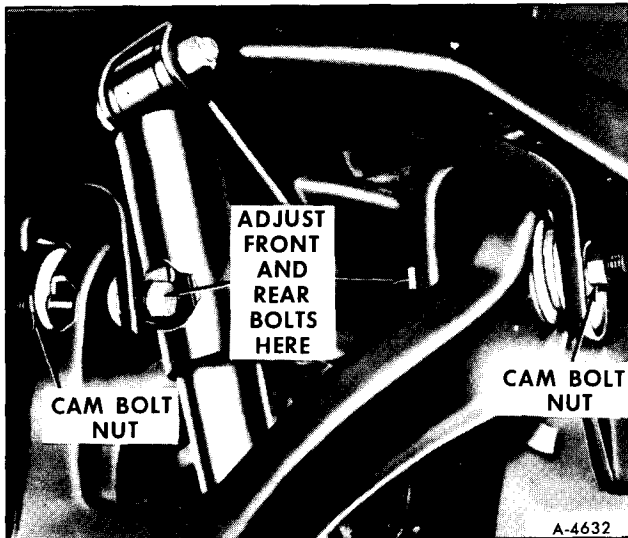

Figure 18—Upper Control Arm Attachment
2. Disconnect upper shock absorber attaching bolt. (figure 18)